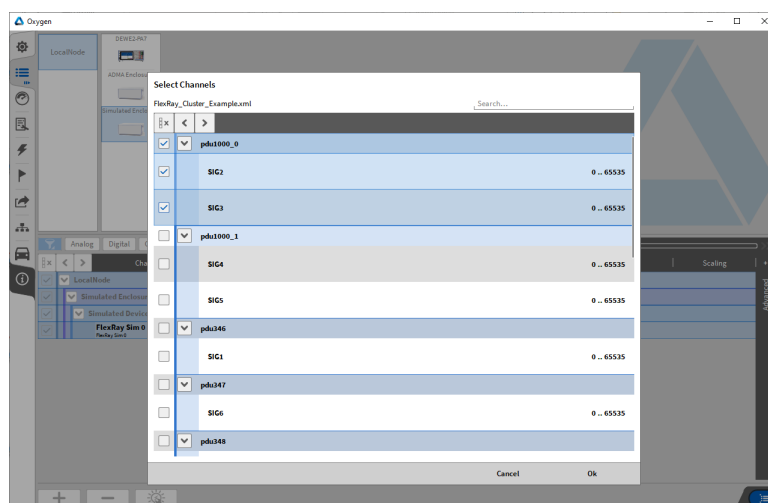

Fig. 4.60: Channel Picker dialog
- After loading the fibex-file, a Channel picker dialog (see Fig. 4.60) will open to select the channels from the fibex file that shall be decoded during data acquisition. It is possible to select only certain channels and messages or all channels.